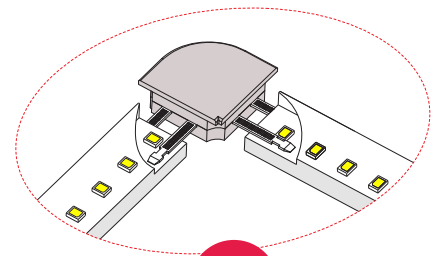

Fig. 7.4
- Fig. 7.4 — Do not insert the 2 pin into back side of PCB, and insert the another 2 pin at the surface of the PCB and LED, which will cause the light to short circuit and burn out the entire roll of the light, which may cause a fire.